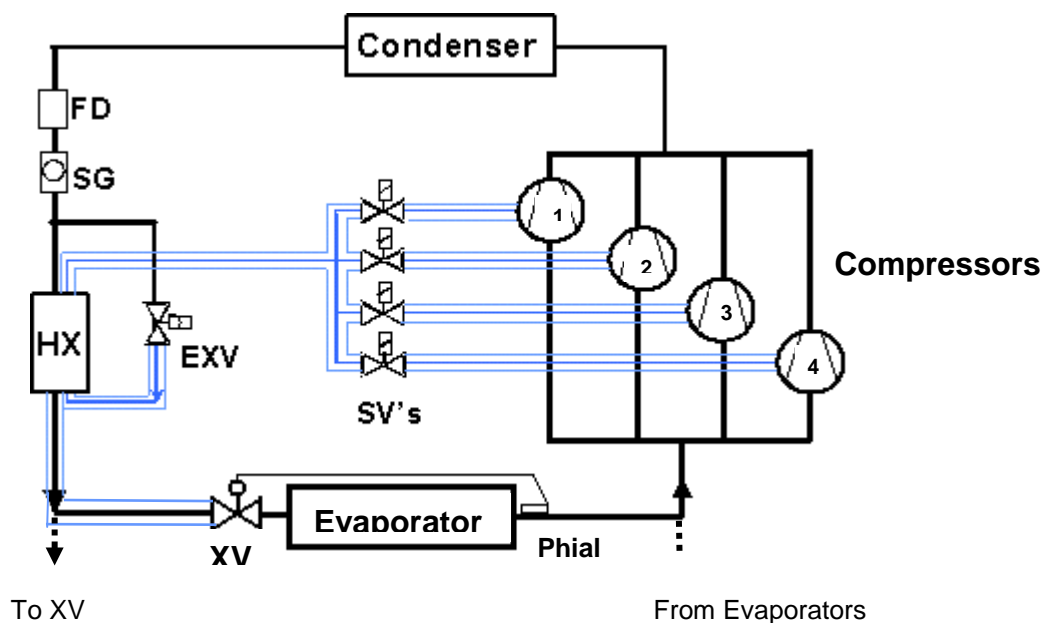

Figure 6: Arrangement for multiple compressors using one heat exchanger (HX)
Multiple VI compressors can share one subcooler (HX) and Electronic Expansion Valve (EXV) as shown in Figure 6. Solenoid valves must be fitted to the individual vapour injection lines to close when the compressor is switched off. This is to avoid excessive quantities of liquid entering the compressor during standstill.
The expansion device used in conjunction with the subcooler HX may be a TXV or an electronic expansion valve (EXV). A solenoid valve should be added if the expansion device does not completely close. This is to avoid liquid migration to the compressor during the off cycle. The solenoid valve may be in the liquid line or the vapour line. A liquid line position is usually preferred because the valve is smaller but a vapour line installation will be necessary if multiple compressors are used in parallel as shown in **Figure 6**.